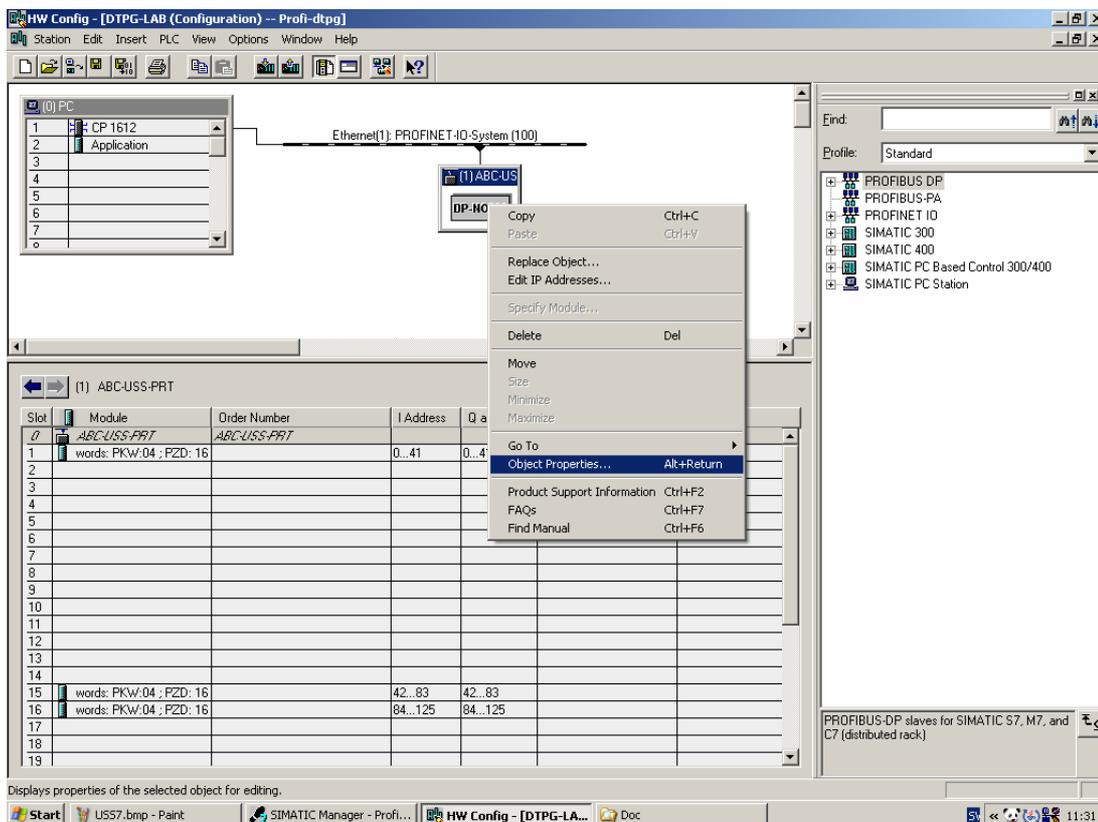

Figure 15
9. Select “Object Properties” by clicking on the ABC-PRT-USS module, as shown in figure 15.